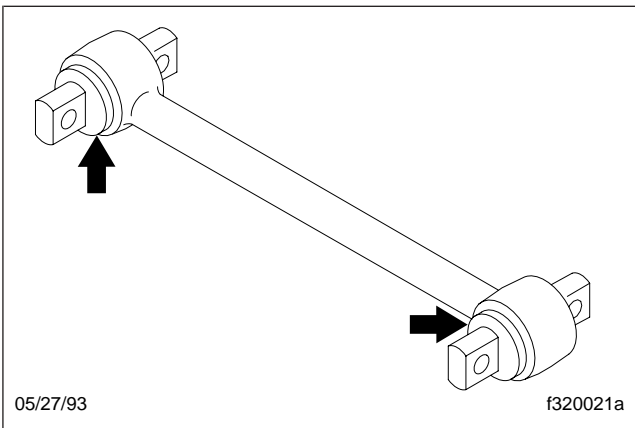

Fig. 2, Radius Rod Bushings
5. Inspect the rubber bushing ends. See **Fig. 2**. Replace the radius rod for any of the following reasons: